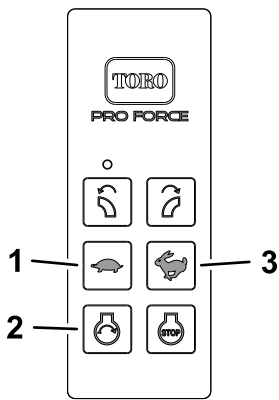

Figure 19
1. Press and hold the ENGINE-START button (Figure 19) on the handheld remote until the engine starts.
3. Adjust the engine speed using the handheld remote by pressing the INCREASE ENGINE SPEED button or DECREASE ENGINE SPEED button (Figure 19).